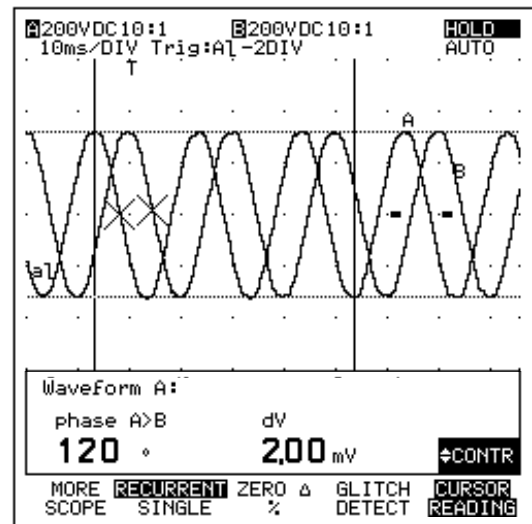

Figure 7-12. Phase Measurement (with Markers)
① Measure the two sine wave waveforms as explained in the previous example.
②  Return to the main menu.
③  Set the test tool to Scope mode.
④  Freeze the display; **HOLD** appears in the upper right display.
⑤   Activate the Cursor readings.
⑥   Go to page 2 within the More Scope window.
⑦  Choose ADD MAIN READING.
⑧  Open the list box.
⑨  : phase A>B  .
⑩  Close the window.
⑪   Position the two cursors on the waveforms; see Figure 7-12.
The display shows the phase between the waveforms on INPUT A and INPUT B: "phase A>B -120°" (see Figure 7-12).